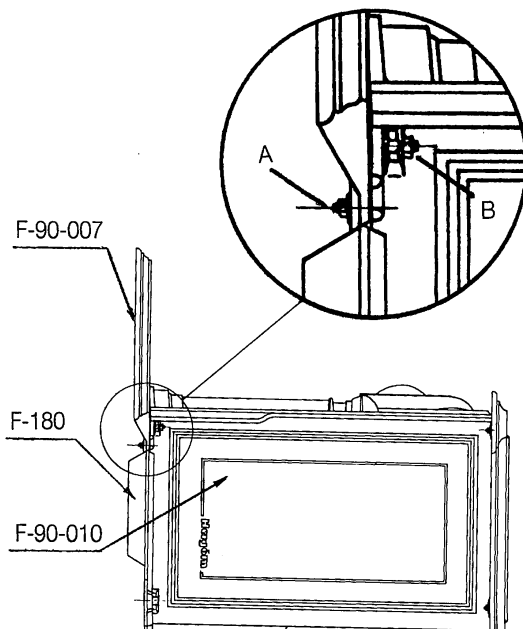

Fig. 2
3. Fit tray (F-90-007) close to bottom (F-180), as shown in Fig. 2, until holes match (Detail "A"). Hold both parts together using four M.6x20 screws with their nuts and washers. To hold the tray at the sides two M.6x40 screws with nuts and washers are used, (Detail "B").